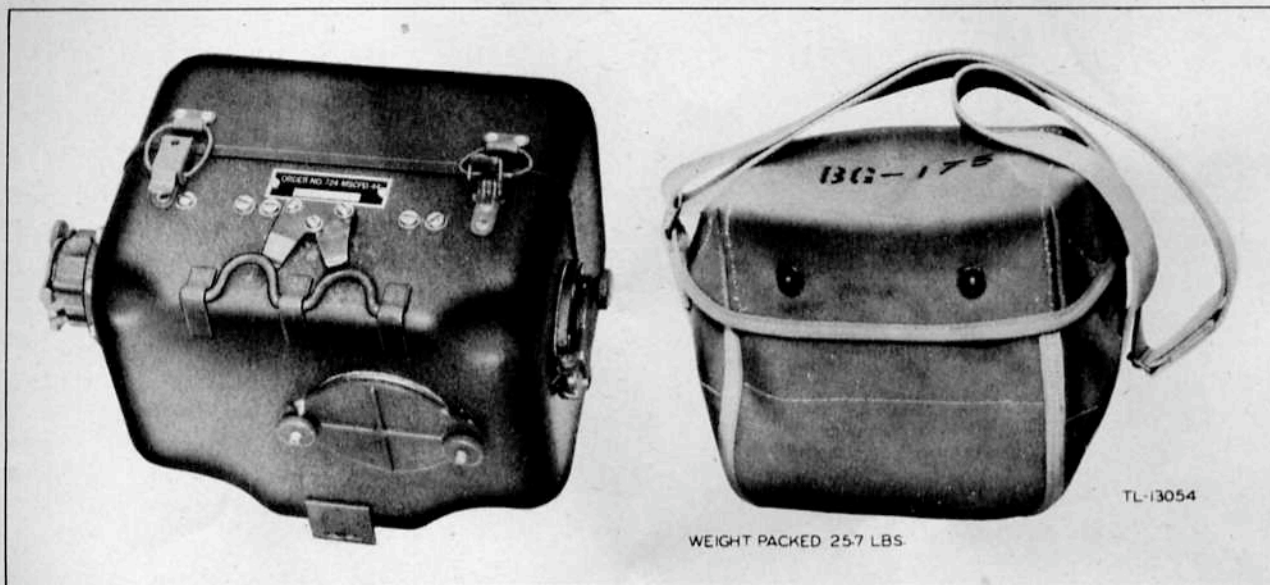

Figure 3. Generator GN-58 and Bag BG-175 for carrying Generator GN-58.
**8. GENERATOR GN-58.** Generator GN-58, shown in figure 3, is a hand-cranked generator which supplies all voltages required for the operation of Radio Receiver and Transmitter BC-1306. The output voltage of the high-voltage section is not as high as that delivered by the vehicular power supply because the generator would be too difficult to crank. The difference in transmitter power output when operated from the hand generator
All of these accessories are carried in the antenna equipment roll, Roll BG-174. The generator itself is carried in Bag BG-175, shown in figure 3.